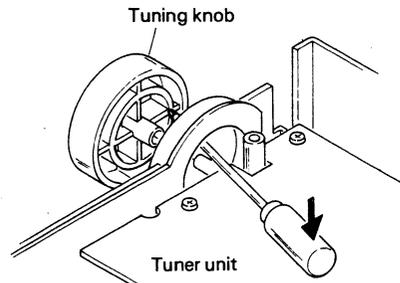

Fig. 9
2. Use a screwdriver to remove the tuning knob from the rear side. (Fig. 9)